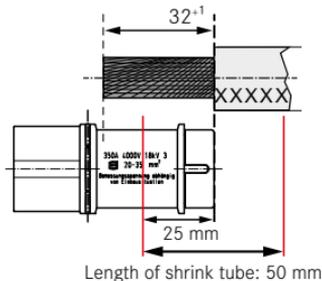

Figure IV-9: Shrink tube assembly over the cable and contact for Han® HC Modular 350
- ① Strip the cable according to Figure IV-9 and IV-10, so that the stripped *stranded wire* can be inserted fully into the contact.
- ② Terminate the cable to the torque specified for the wire gauge (refer to Table IV-2, p. 32-35):
- ③ Pull the shrink tube as shown in Figure IV-9 and IV-10 (red lines!) over the contact and shrink.